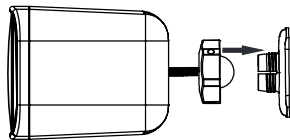

figure 3
Attach the complete set (loudspeaker+ threaded ball + locking nut) to the wall mounting part (1). See figure 3.